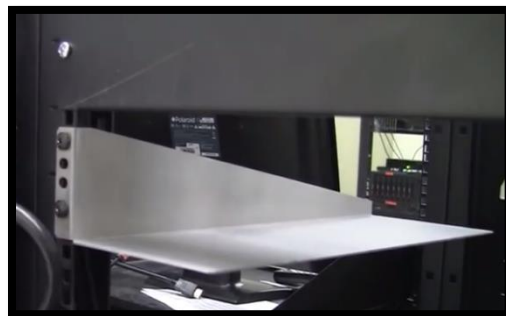

Figure 4.8. STB Shelf Assembly – Long Brackets.
- p. Next, take the two Long Brackets and secure to the back of the rack at the same height as the Short Brackets. See Figure 4.8 for reference.